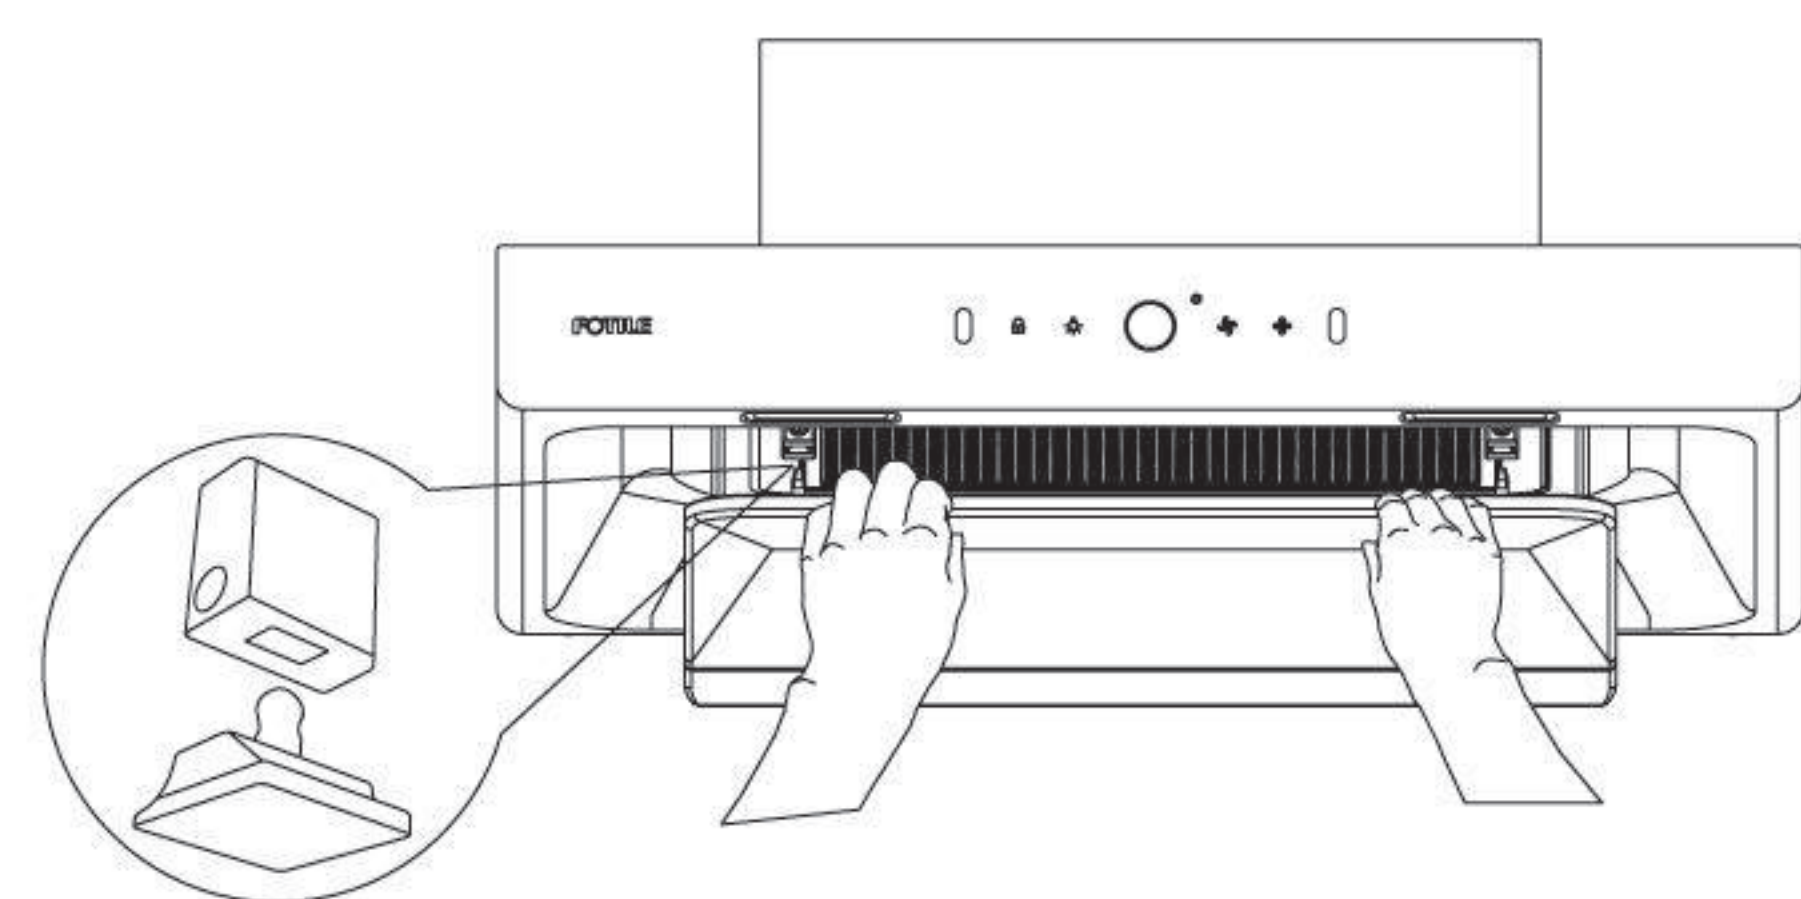
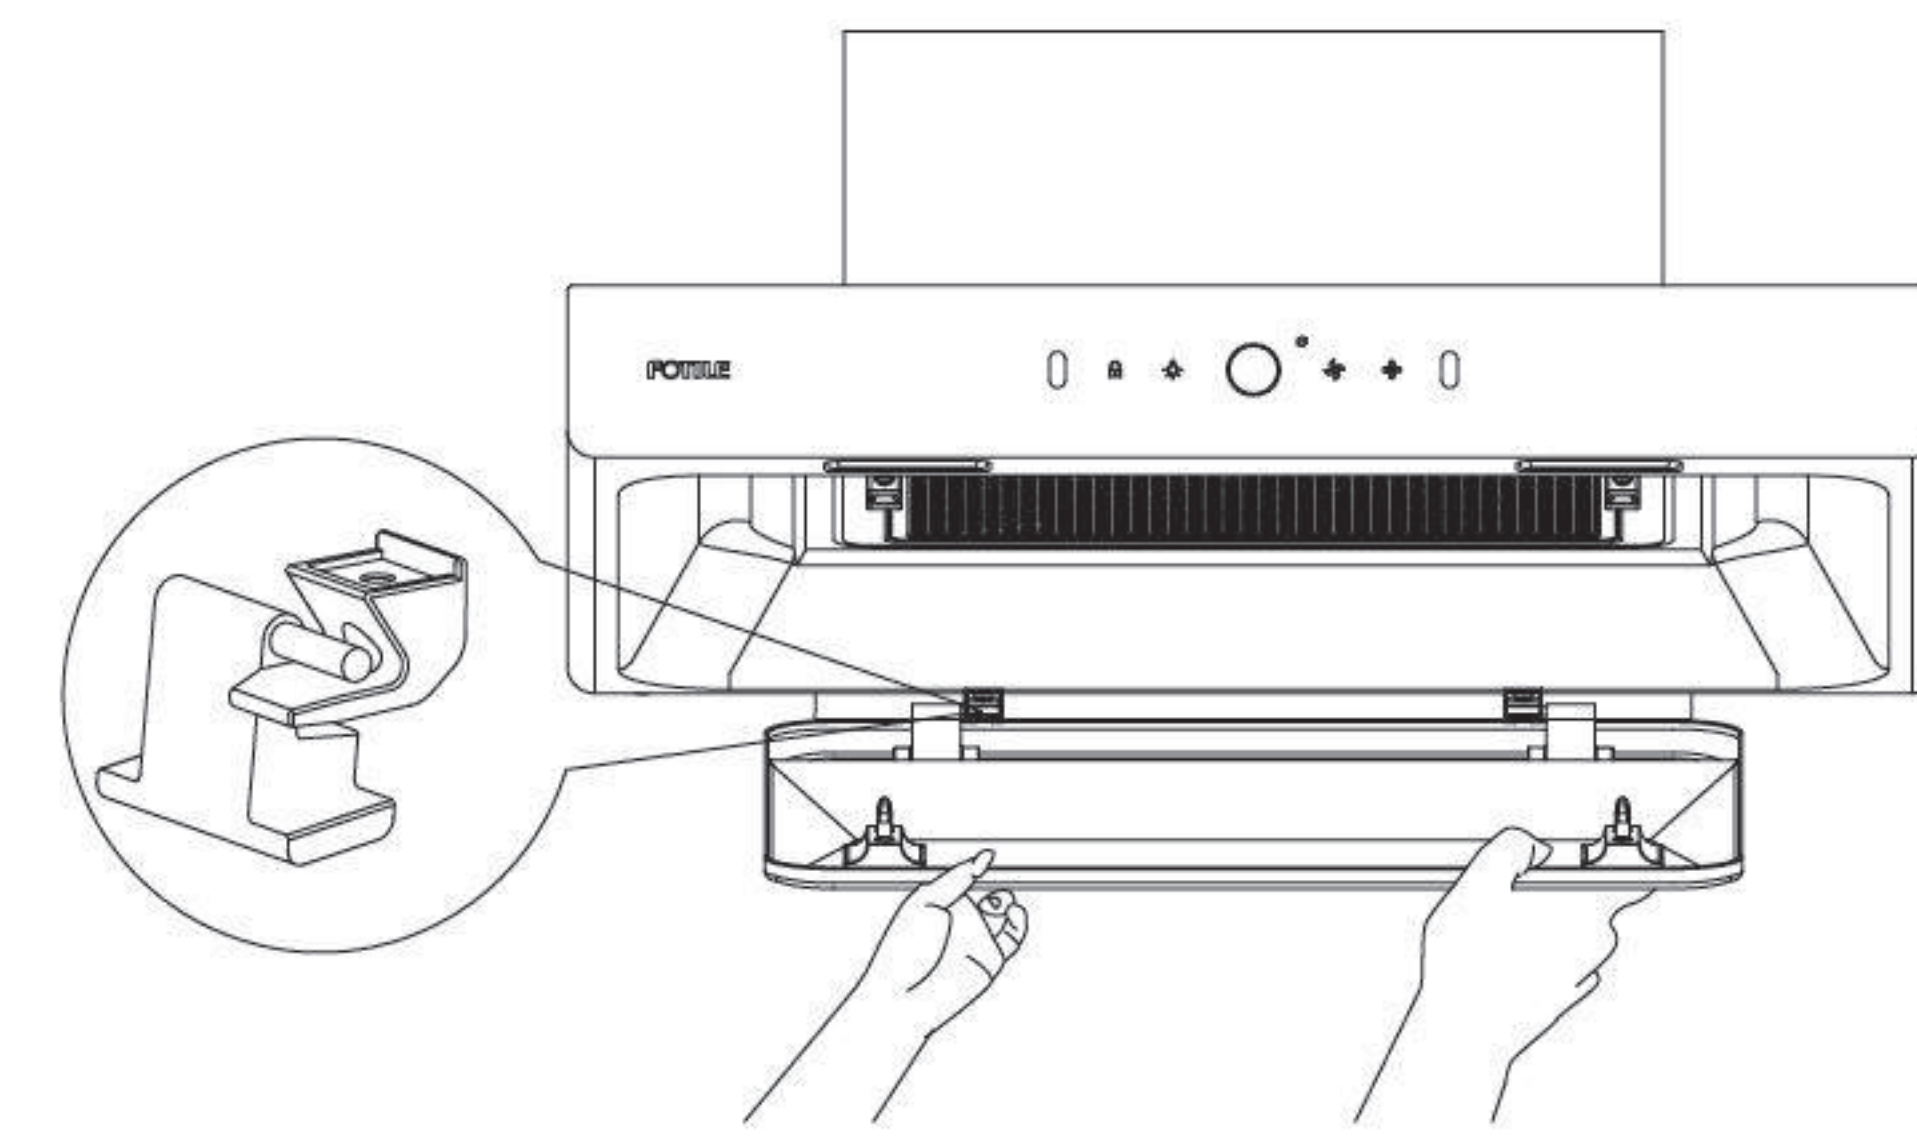
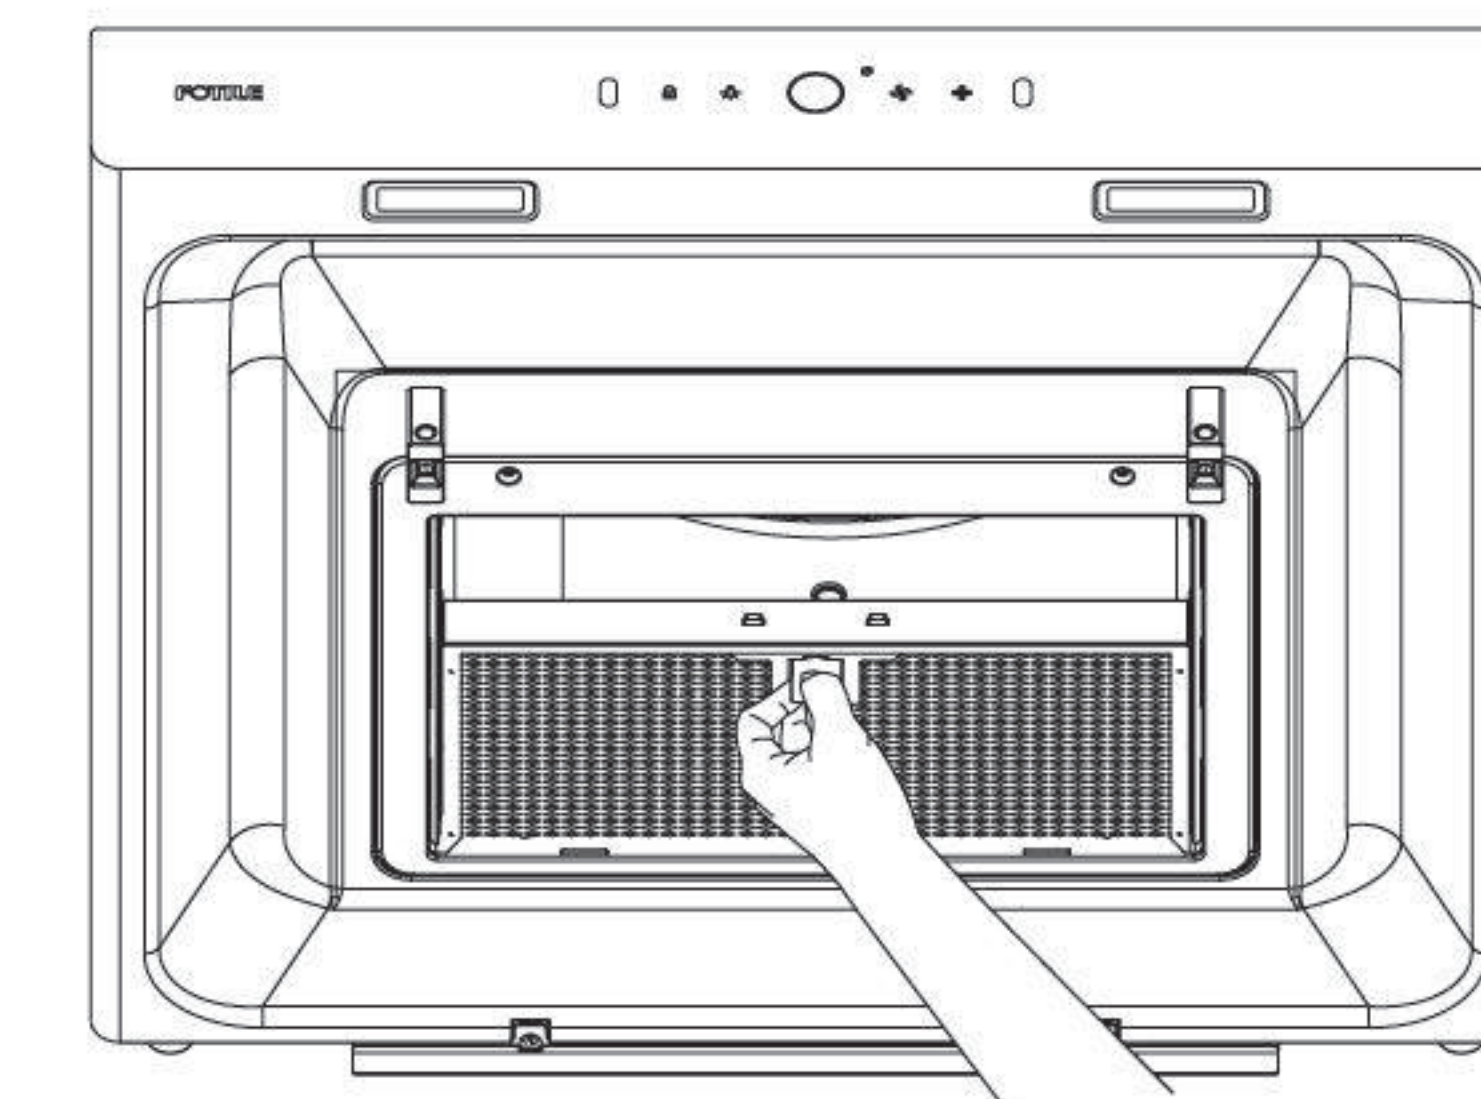
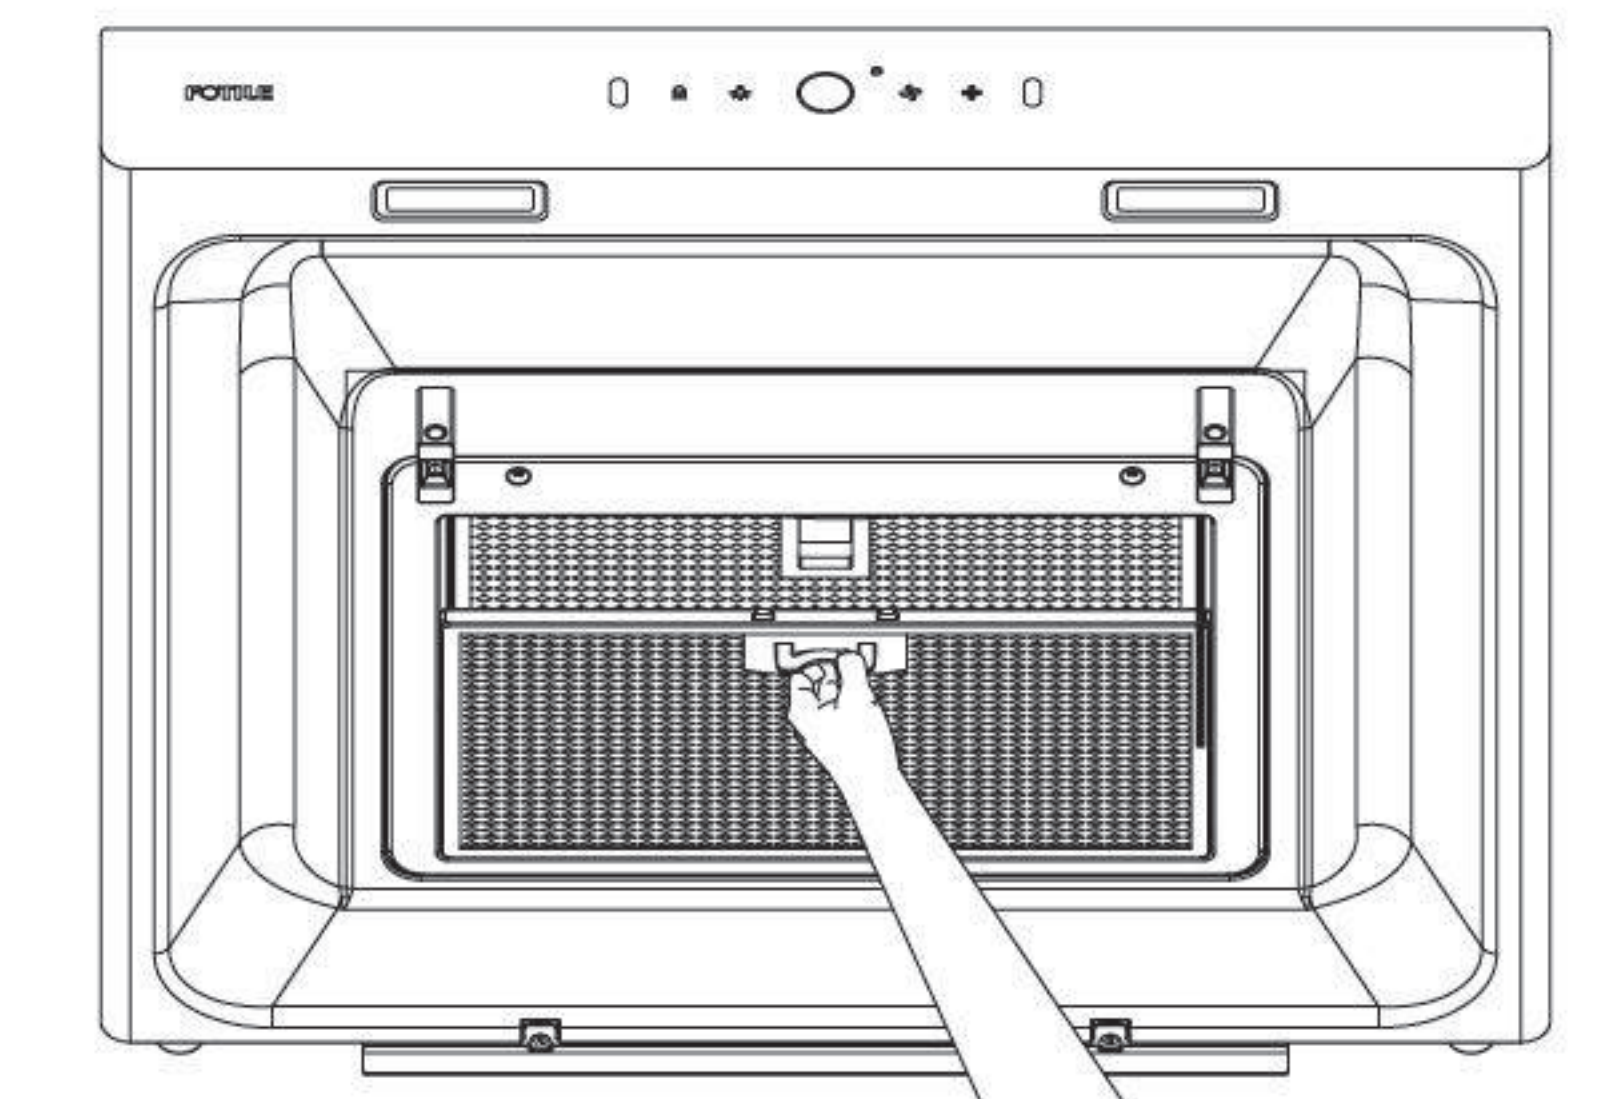

Fig.1
Fig.2
Fig.5
Fig.6
1. Grasp the front edge of wing plate with hands, pull it down to detach the locking tab of the wing plate (Fig. 1). Then flip it down at a certain angle, and remove the wing plate horizontally with hands finally (Fig. 2).
1. First remove the wing plate (see Fig. 1 and Fig. 2);
3. Detach the locking tab of the carbon filter, remove it, replace with a new carbon filter (see Fig.5), and then install the front filter (see Fig.6) and the wing plate (see Fig.2 and Fig.1);